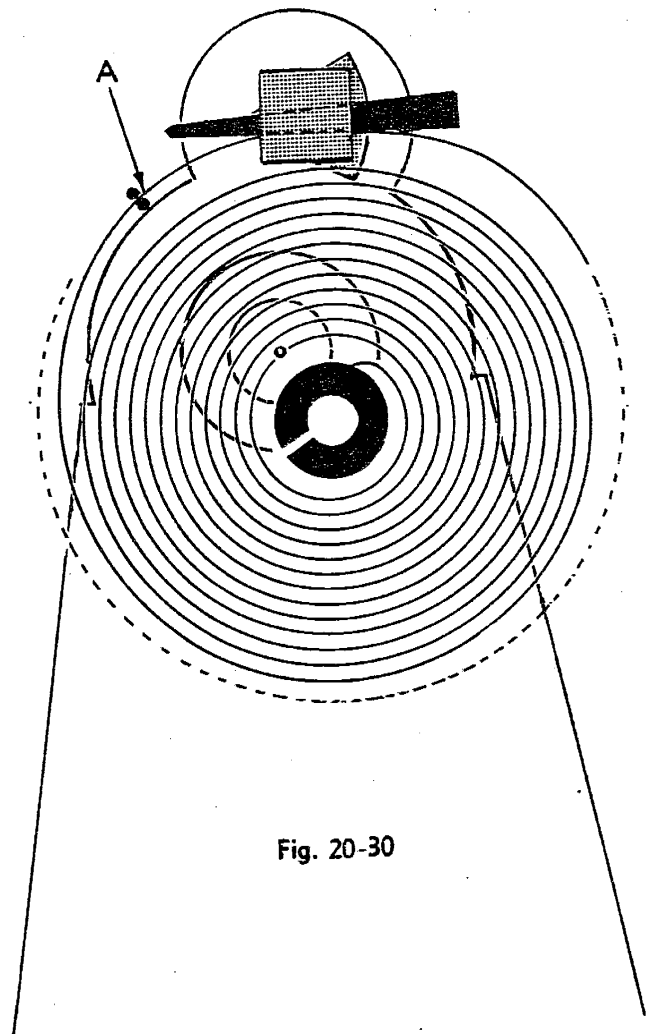

Fig. 20-30
6. Pull outside coil of hairspring through stud until the point of vibration is just back of regulator pins A, figure 20-30. This point should be very close to the regulator pins as they are closer together (Section 390.1).
7. Pin hairspring to stud and break off excess spring. Leave a small amount as in figure 20-30 until you are sure the watch will time properly.